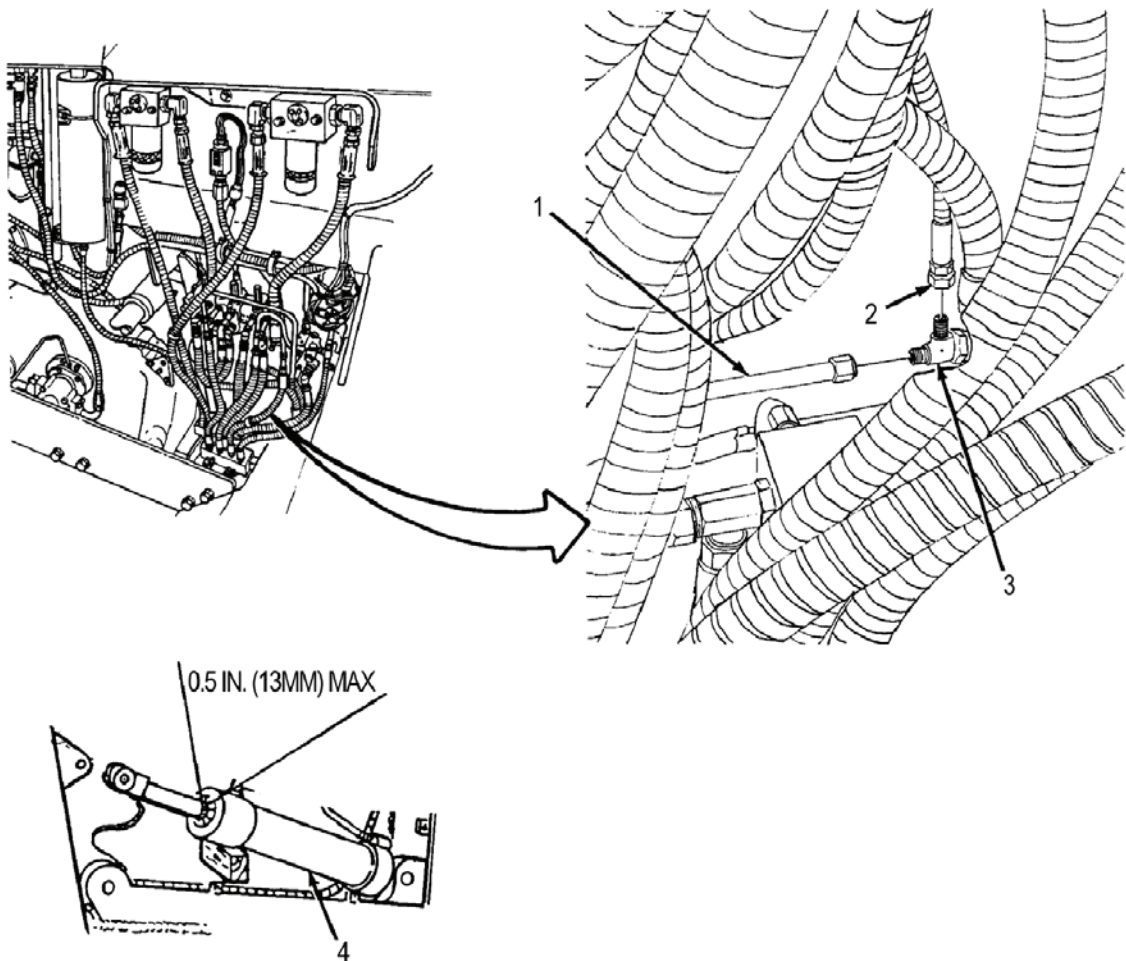

Figure 14. Apron Cylinders Leakage Test
- Have assistant start engine, and retract cylinders (Figure 14, item 4) approximately half-way. Stop engine; relieve hydraulic pressure.
- Disconnect CKT-20 (REAR) TEE hose (Figure 14, item 2) and CKT-20 (REAR) TEE tube (Figure 14, item 1) from tee (Figure 14, item 3) on hull floor. Plug hose (Figure 14, item 2) and tube (Figure 14, item 1), and cap tee (Figure 14, item 3).
- Start engine and have assistant hold APRON CONTROL lever in UP position. Measure cylinder rod extension of both apron cylinders (Figure 14, item 4). Continue to hold APRON CONTROL lever UP for one minute. Have assistant return APRON CONTROL lever to NEUTRAL position. Measure the cylinder rod extension of both apron cylinders (Figure 14, item 4) again. If extension rate is greater than 0.5 in. (13 mm) per minute, cylinder is leaking excessively.